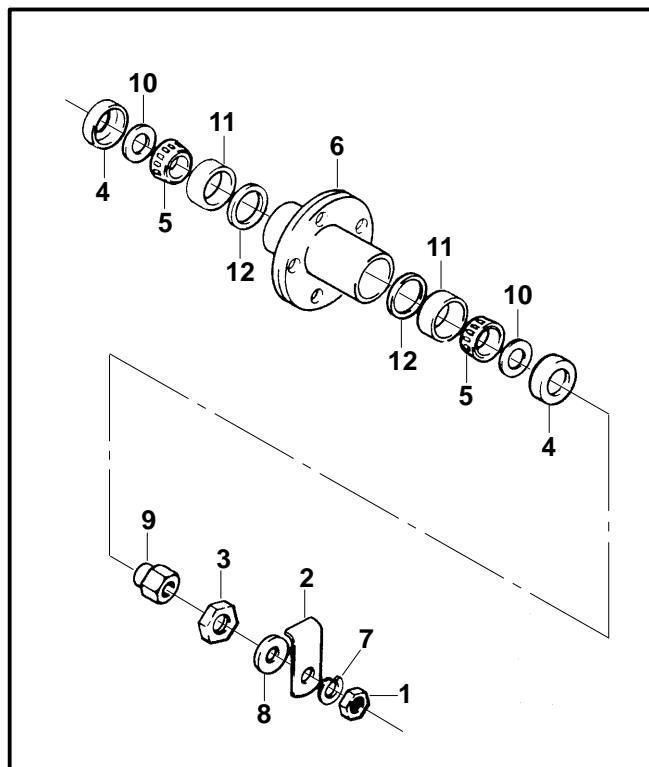

FIGURE 22
2. Remove the front wheel and hub assembly by removing the axle nut, lockwasher and by rotating the axle lock to allow the axle assembly to slide from the fork sidearm assembly. Refer to Figure 22 on page 25.